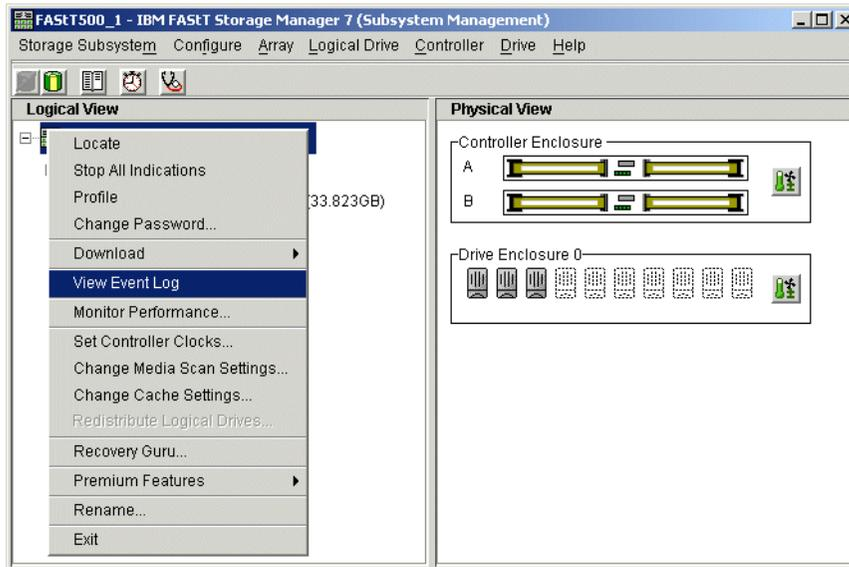

Figure 6-6 Subsystem Management window
1. Within the Subsystem Management window, right-click **Storage Subsystem FAStT500_1**, and select **View Event Log** (see Figure 6-6):